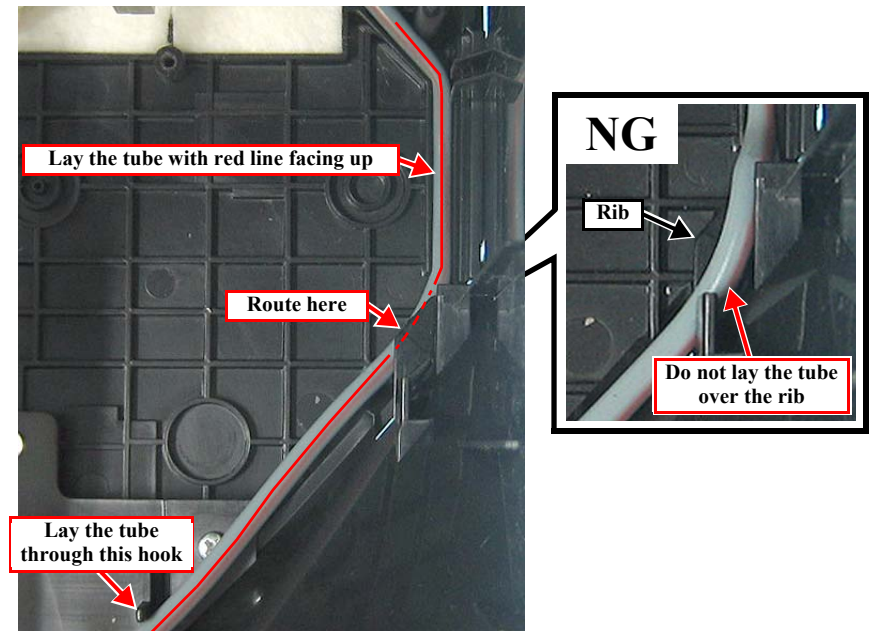

Figure 4-24. Notes on Installation of the Waste Ink Tray Assy
- Route the tube with the red line facing up. (Fig. 4-24)
- Install the Waste Ink Tube with the tube passed through the hook as shown in the figure. (Fig. 4-24)